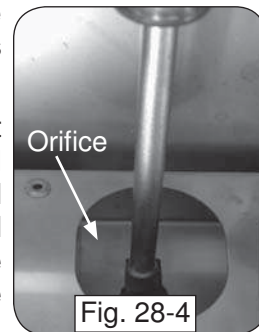

Fig. 28-4
5. Use a $\frac{3}{8}$ " hex nut driver to remove the exposed orifice (Fig. 28-4) and replace it with the correct orifice for the new gas. (See Table 1 at the beginning of this document for orifice sizes.)